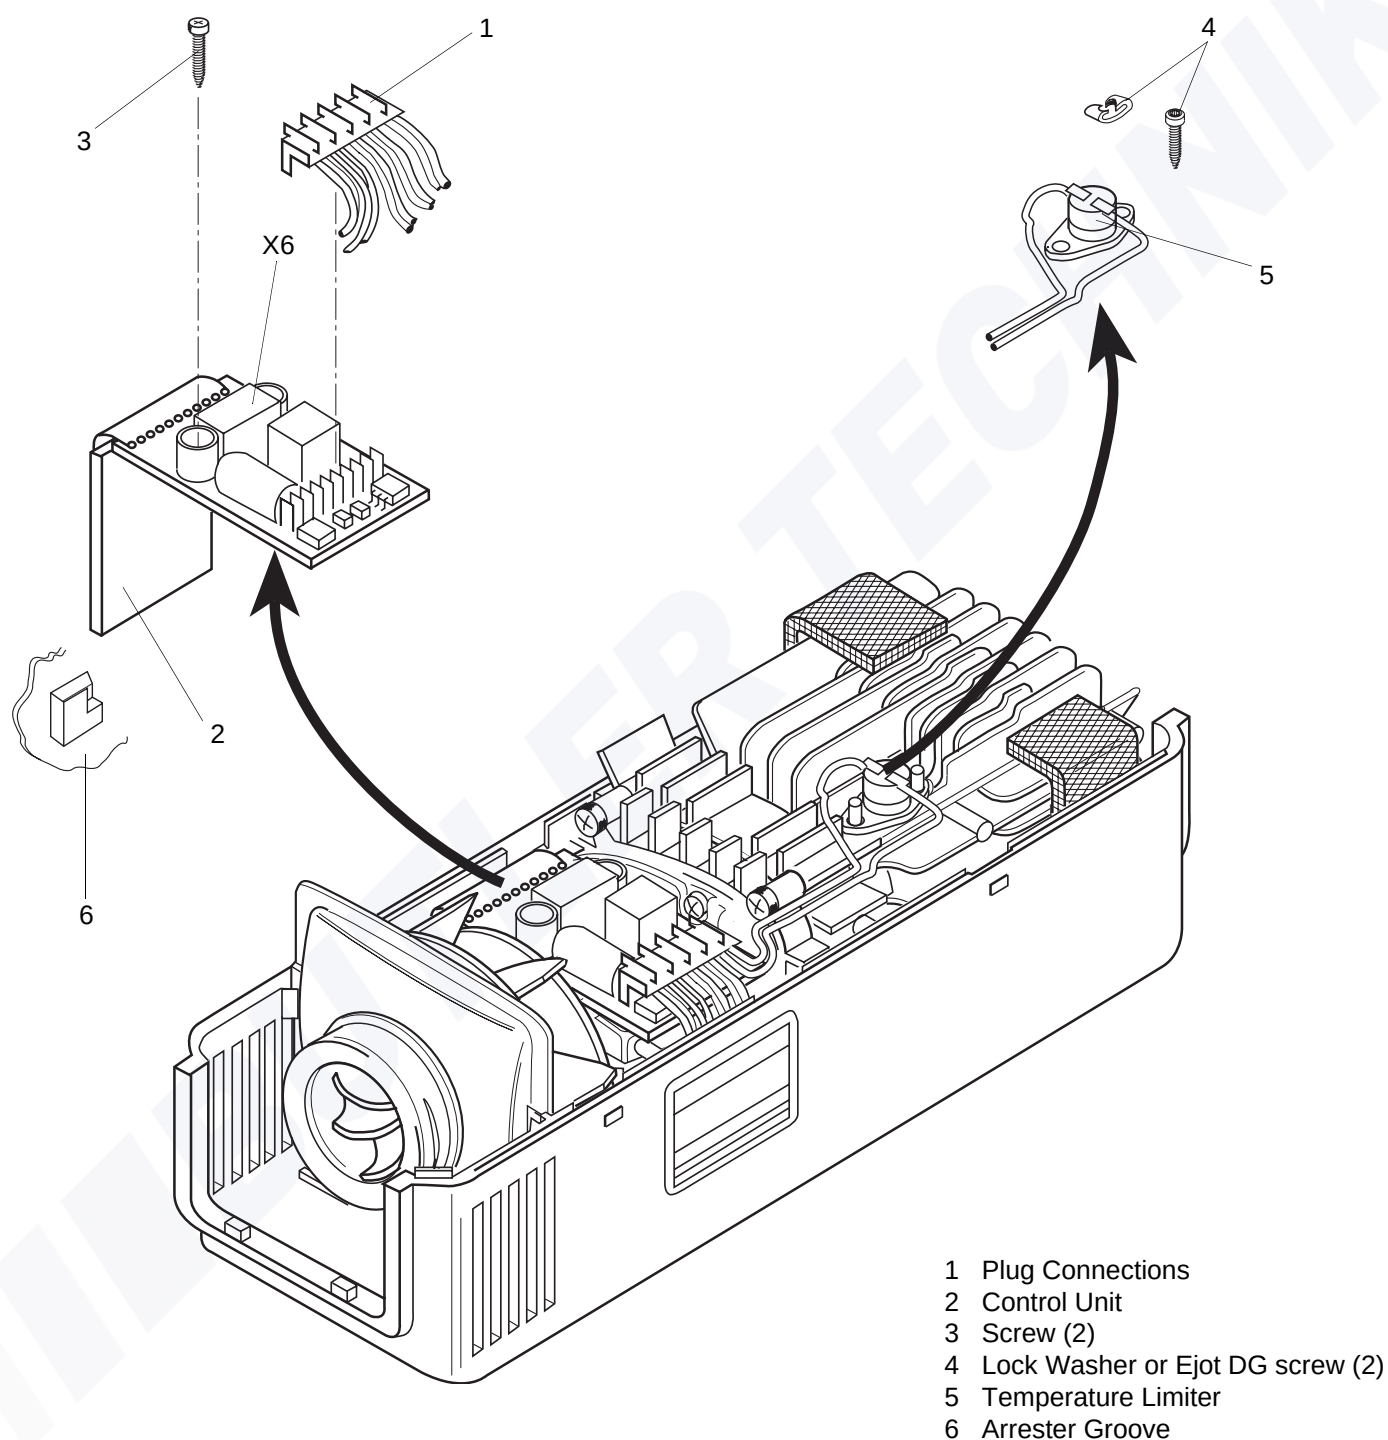

Fig. 815 Replacement of Control Unit and Temperature Limiter (Air Top 2000 without Diagnosis)
5. Disconnect plugged connections (1, Fig. 815 or Fig. 816) of terminal.
6. Remove screws (3) and remove control unit (2).
1. Locate control unit (2, Fig. 815) in installation position and secure with screws (3). Ensure control unit engages in arrester groove (6). Torque screws to 0.7 ± 0.07 Nm.
6. Remove lock washers or Ejot DG screws (4, Fig. 815 or Fig. 816).
7. Remove temperature limiter (5).
1. Locate temperature limiter (5, Fig. 815 or Fig. 816) in installation position and secure with lock washers or Ejot DG screws (4). Ensure that temperature limiter rests properly on heat exchanger.